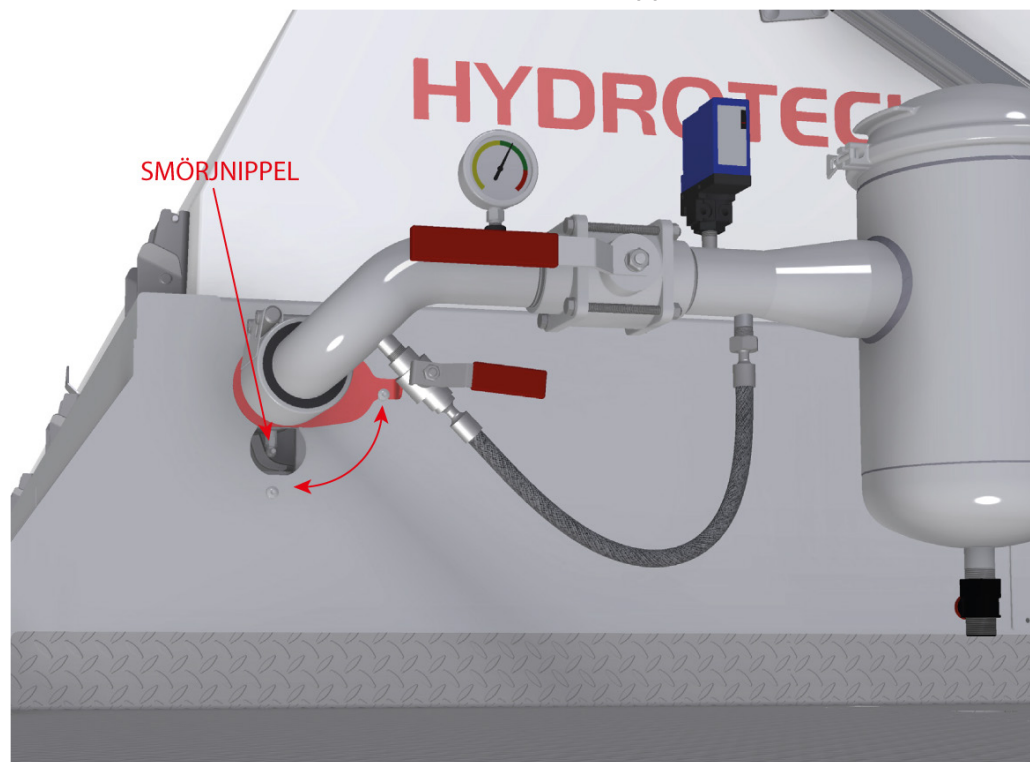

Figure 7.18 Swivel lubrication nipple.
The swivel, the backwash pipe bearing, is located behind the cover plate on the outlet side and connects the piping with the backwash pipe, see Figure 7.18.
1. Lift up the red coloured cover shown in Figure 7.18 and hang it over the screw in the cover plate.